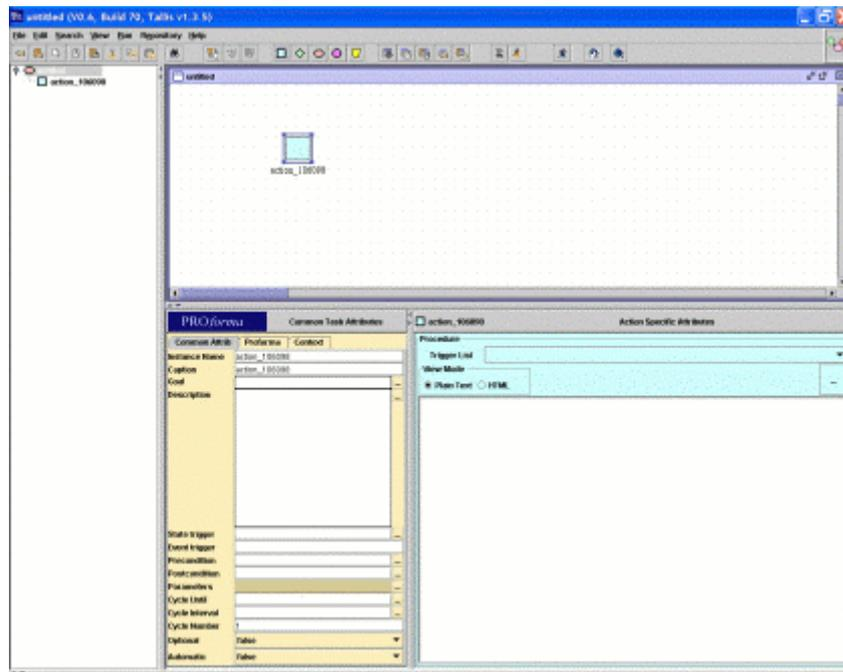

Figure 5: Inserting an action into the top-level plan
2. Click on the Action button  in the toolbar (this represents an "action" task) and then again on your work area (the *untitled* plan). This should insert a new, undefined, action into this plan (see Figure 5).